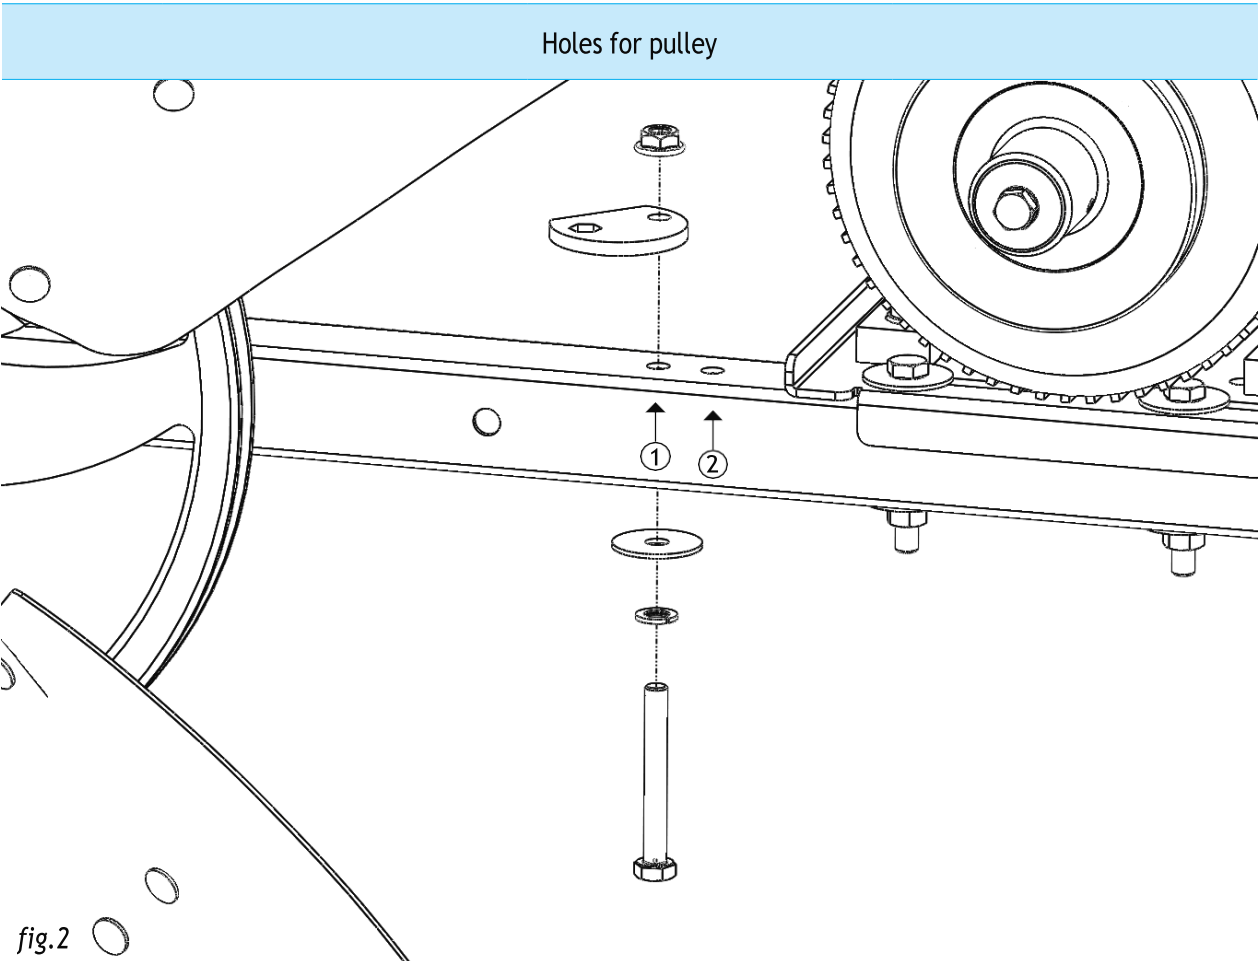

fig.2
7. Verify that the cam is mounted in the right position (see fig.2 / pag.12) and push the motor away from the centre of the fan to tighten the V-belt. See section 8.3 / 8.4 for getting indications about the correct V-belt tension and the use of the cam for moving the motor.